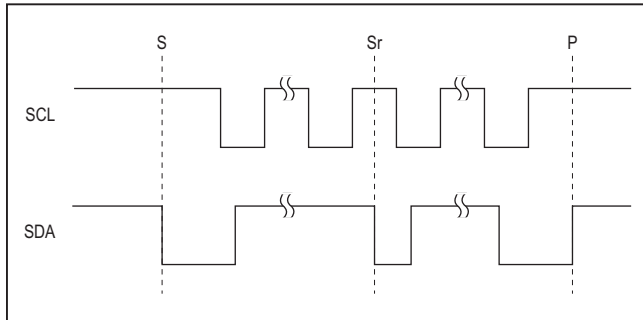

Figure 5. I²C START, STOP, and REPEATED START Conditions
When writing to the MAX14720/MAX14750 using I²C, the master sends a START condition (S) followed by the MAX14720/MAX14750 I²C address. After the address, the master sends the register address of the register that is to be programmed. The master then ends communication by issuing a STOP condition (P) to relinquish control of the bus, or a REPEATED START condition (Sr) to communicate to another I²C slave. See Figure 5.